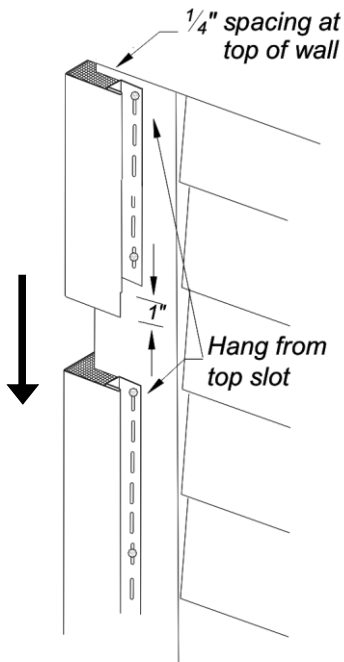

Figure 3.
- Place the corner post so that there is a $\frac{1}{4}$ " gap between the post and any overhang or eave. The corner post should continue $\frac{3}{4}$ " past the bottom of the starter strip. Position fasteners at the top of the upper slots on both sides of the post. Hang the post with these two fasteners. Continue to secure the post by placing fasteners in the center of slots at 8" to 12" intervals. Leave $\frac{1}{32}$ " gap between the fastener and the post (Fig. 3). Trim off the nail hem area that will be exposed below the siding.
- If more than one length of corner post is required, remove 1" from the nail hem and receiving channel of the upper post and overlap the post by $\frac{3}{4}$ " to allow for expansion (Fig. 3).